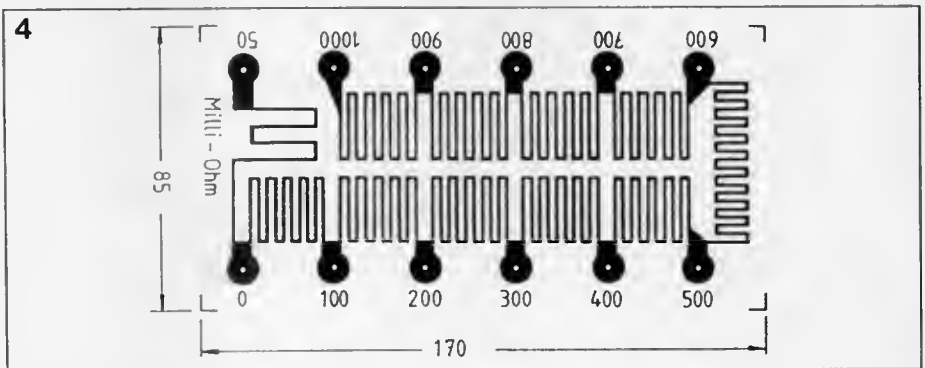

Fig. 4. Track side of the printed circuit board for making the milli-ohm bank (shown 50% reduced).
The VCO shown in Fig. 4 is fully temperature-compensated and its output is short-circuit-proof.
8. Eliminate any remaining imperfections on the sine wave by adjusting P_{16} as appropriate. Note that S_1 should be in the upper position—see Fig. 4. Also note that P_{16} sets the exact 50% duty factor of the VCO output.